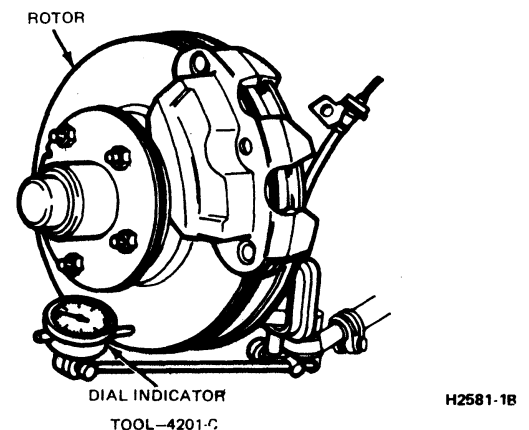

FIG. 31 Checking Rotor Runout
2. Attach a dial indicator (Tool 4201-C or equivalent) to some part of the vehicle suspension so the stylus of the indicator touches the surface of the rotor approximately one inch from outer edge of the rotor as shown in Fig. 31.